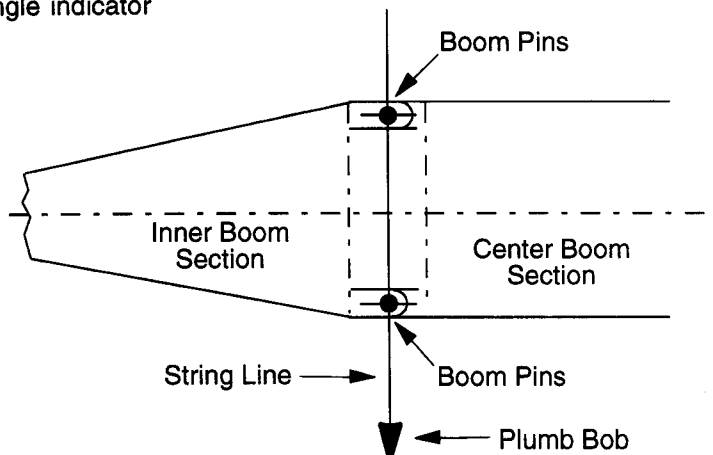

Figure 4
- 1.) Level boom to zero by using a plumb bob on the boom inner pins (see Figure 4).